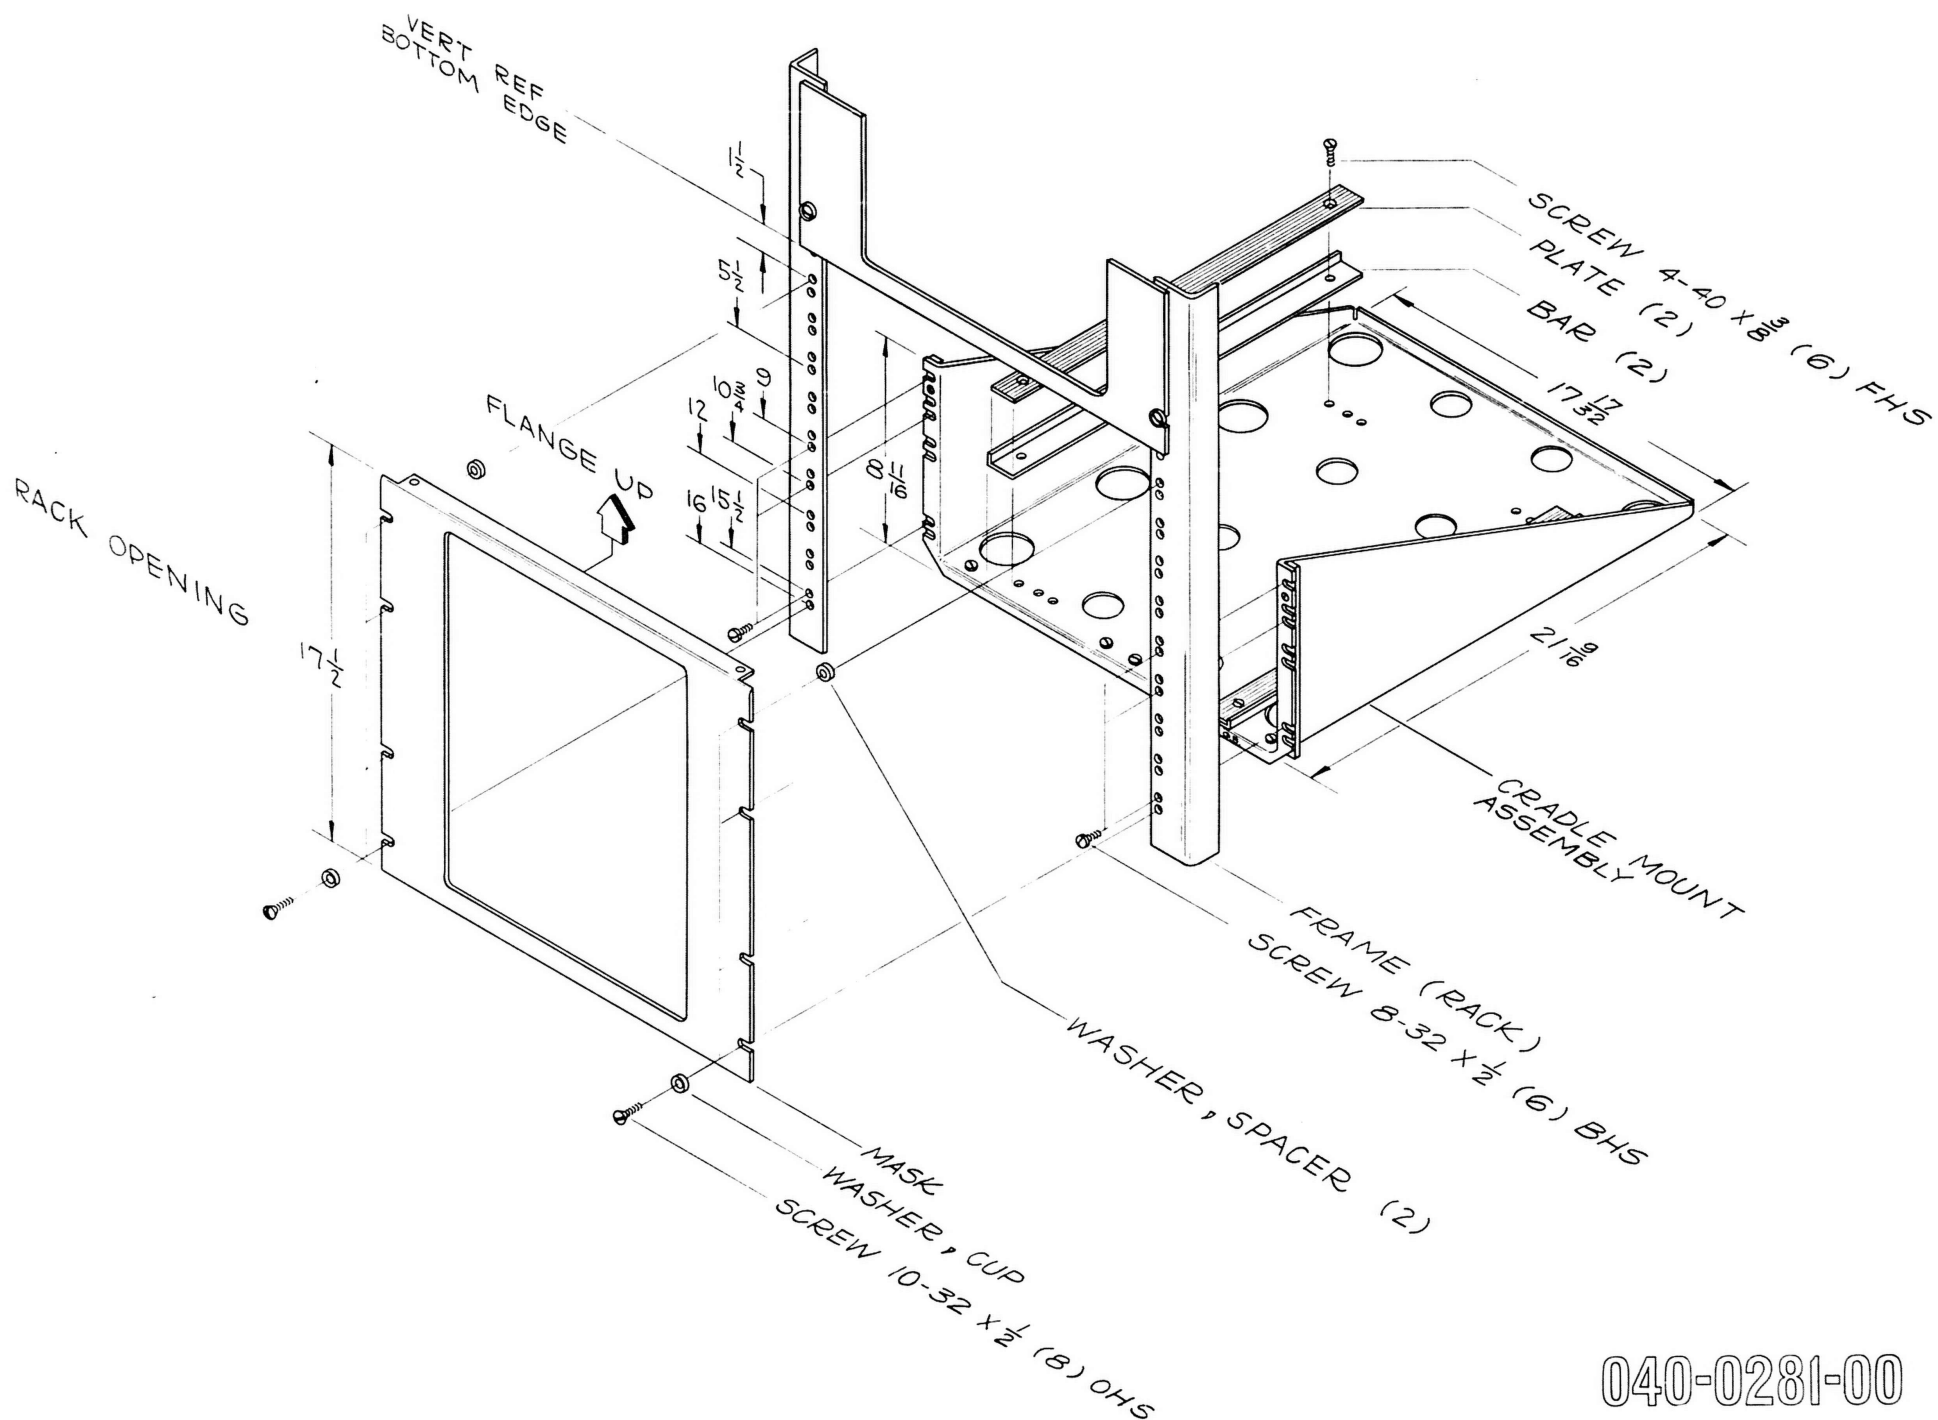

FIG. 6
- () 14. Replace the mask, using the 10-32 x $1/2$ OHS screws, the #10 cup washers, and the two spacer washers from the kit (see Fig. 6).